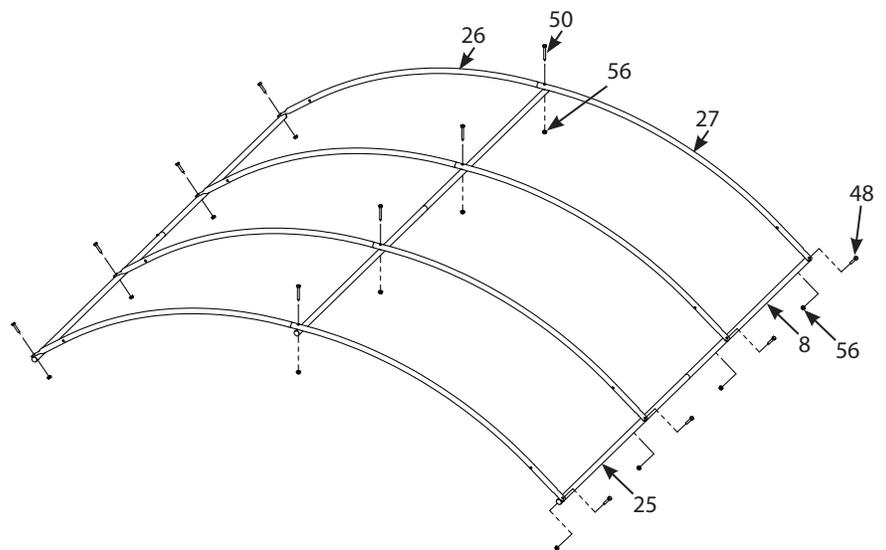

FIGURE 9
9. Slide the four (26) poles into the four (27) poles and set aside. **SEE FIGURE 9.**
Slide the three (8) poles into the three (25) poles so that the snap buttons secure the parts together and set aside. **SEE FIGURE 9.**
Attach the assembled (26, 27) poles in the center to one assembled (8, 25) pole using four 1/4-20 X 2 IN bolts (50) and 1/4-20 nuts (56). **SEE FIGURE 9.**
Attach the remaining two assembled (8, 25) poles to the ends of assembled (26, 27) poles using eight 1/4-20 X 1-1/4 IN bolts (48) and 1/4-20 nuts (56). **SEE FIGURE 9.** Pay attention to the orientation of the bolts! The head of the bolt must be on the top of the roof frame. This helps prevent wear on the skin when fully assembled. *Securely tighten all loose roof hardware at this time.*